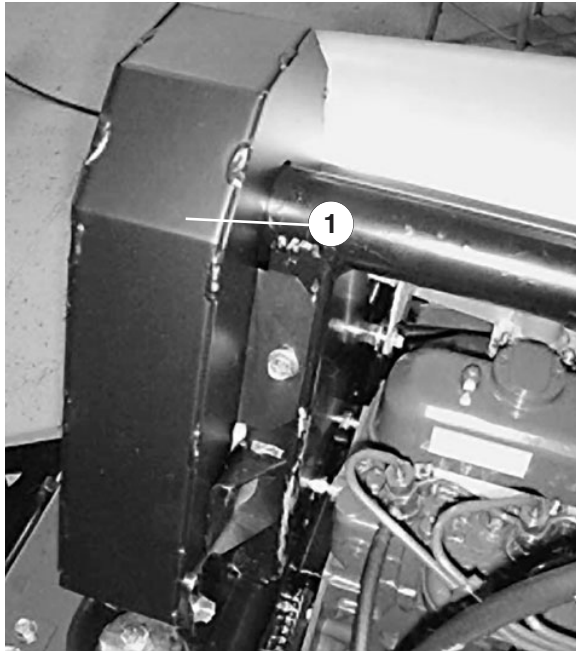

Figure 32
2. Remove the capscrews (5) securing the fan belt guard and remove the guard (Fig. 32).
5. Install the fan belt guard and secure it with capscrews (Fig. 32). Close and latch the hood.
4. Install the fan belt guard and secure it with capscrews (Fig. 32). Close and latch the hood.